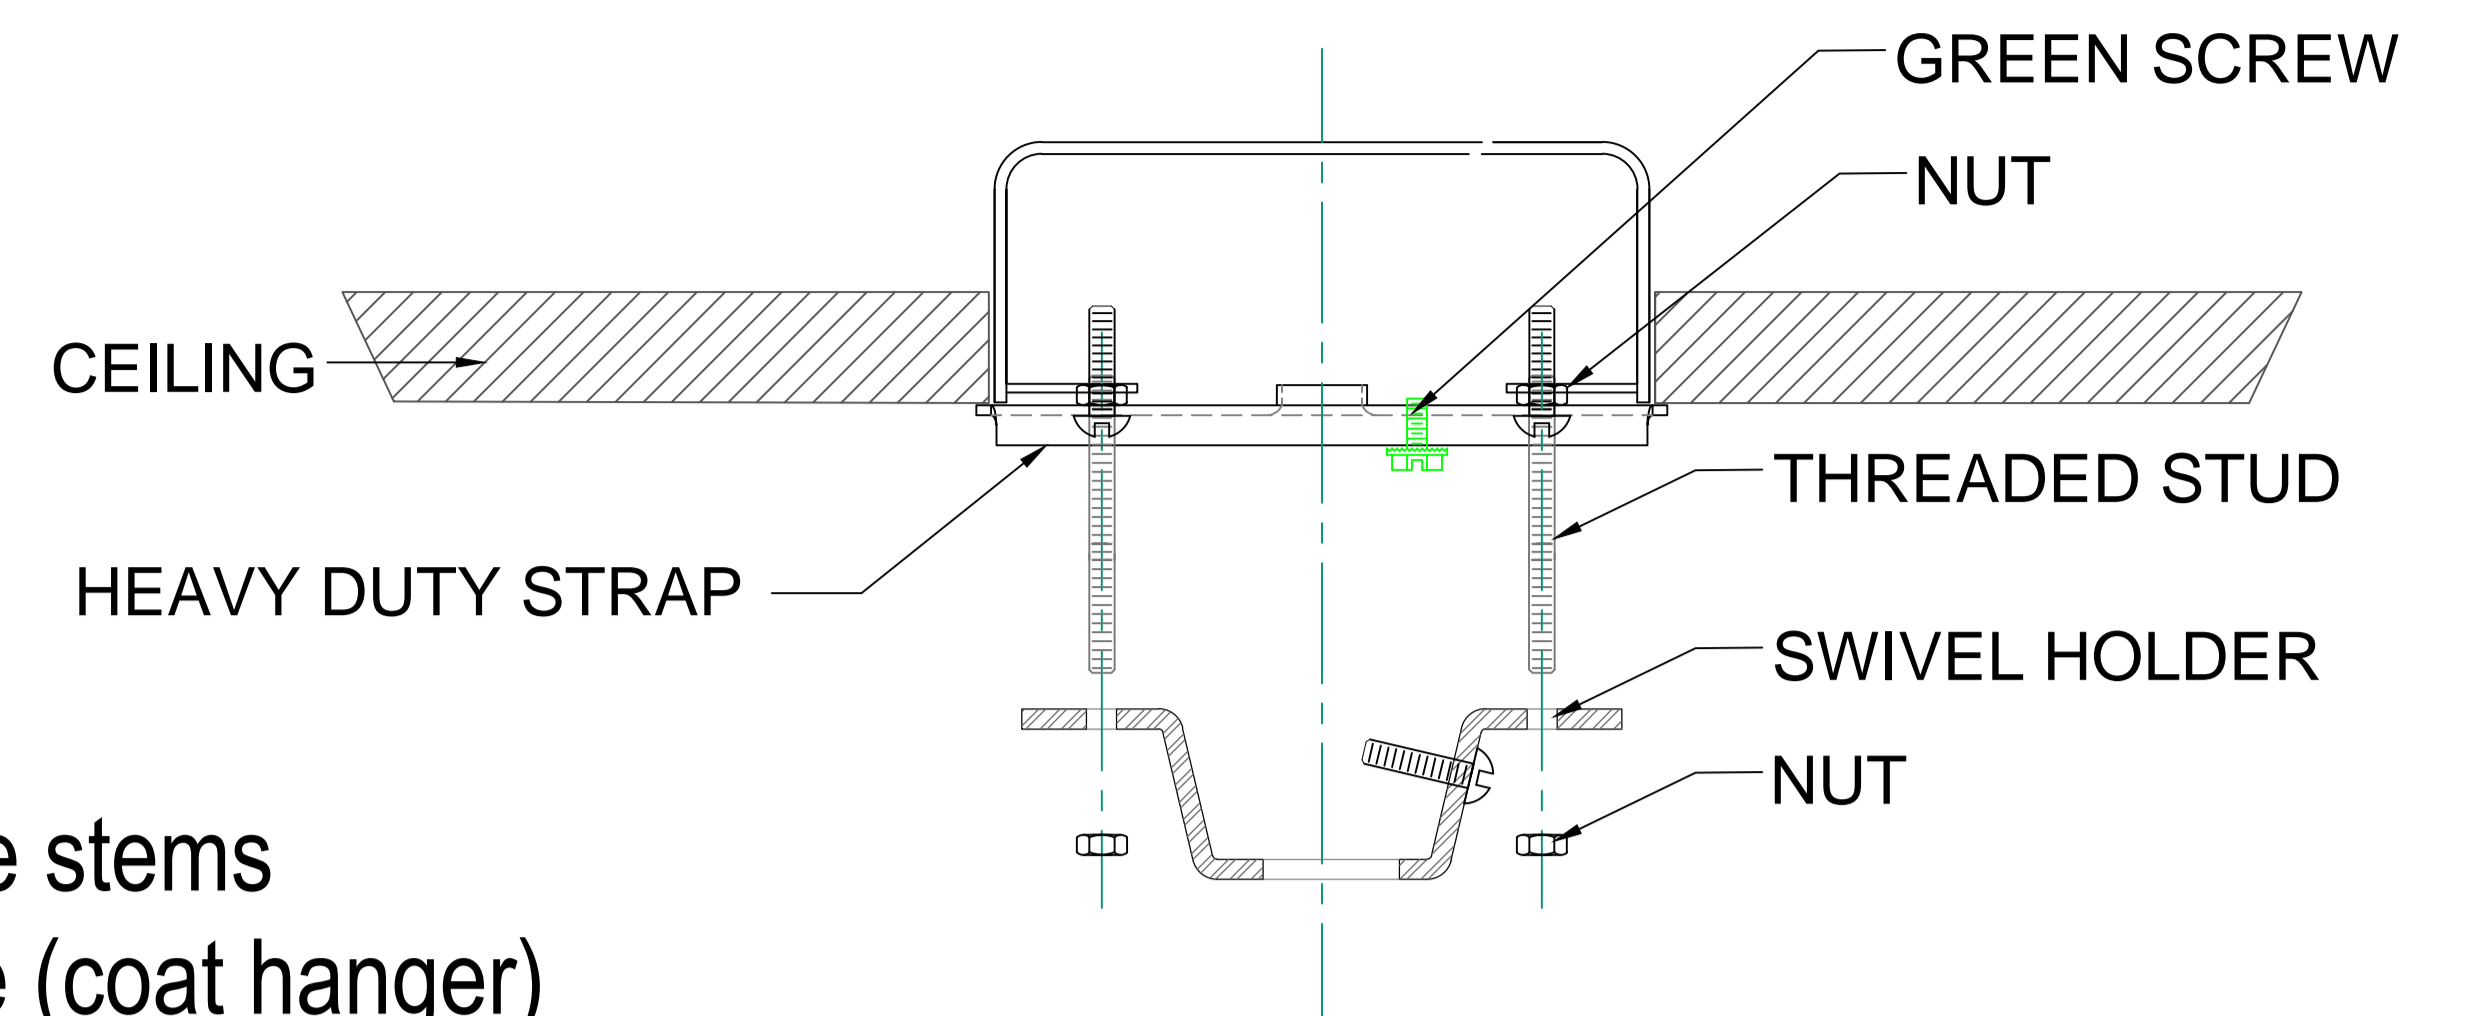

FIGURE-02
2. Attach the swivel holder to the threaded stud on the mounting strap and secure with nut. (See Figure-02)